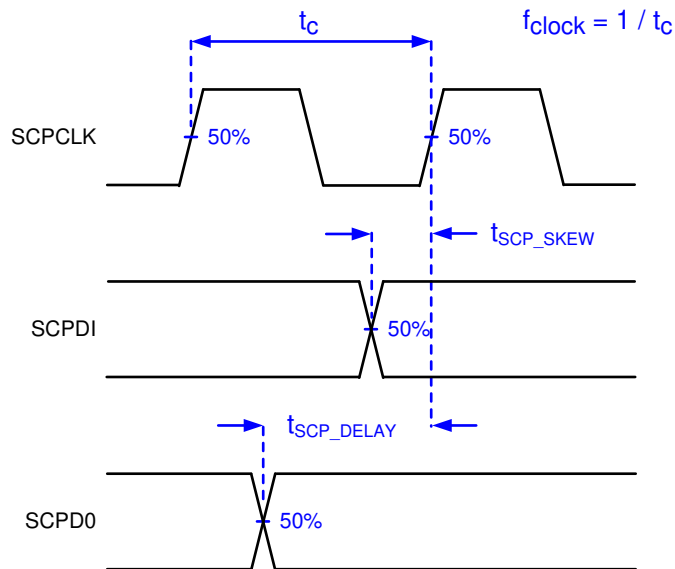

Figure 6-3. Serial Communications Bus Timing Parameters
- (5) PWRDNZ input pin resets the SCP and disables the LVDS receivers. PWRDNZ input pin overrides SCPENZ input pin and tri-states the SCPDO output pin.
- (6) The SCP clock is a gated clock. The duty cycle shall be 50% \pm 10%. SCP parameter is related to the frequency of DCLK.
- (7) Refer to Figure 6-3.
- (8) SCP internal oscillator is specified to operate all SCP registers. For all SCP operations, DCLK is required.
SERIAL CONTROL BUS TIMING PARAMETERS (See Figure 6-3 and Figure 6-4)